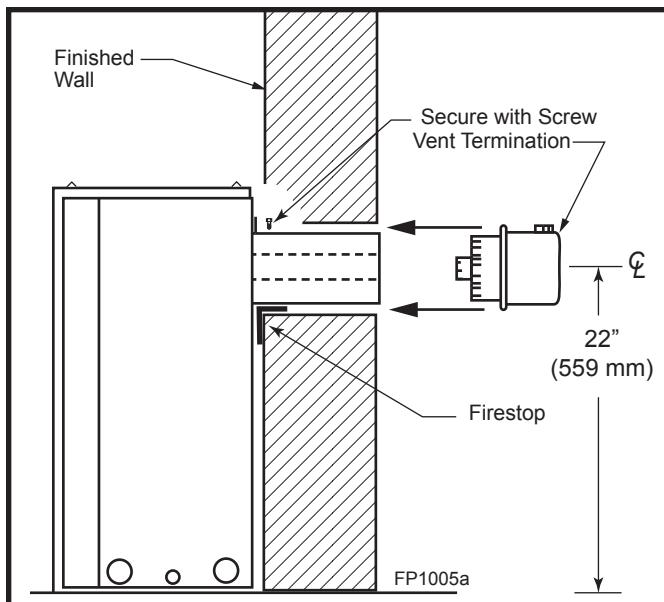

Fig. 19 Side view of final unit location.
Twist the termination collar so it locks onto fireplace collars. Run screw through tab to keep collar from turning. (Fig. 19)
- Once the collar is twisted onto the fireplace collar, secure with a screw through the tab. (Fig. 19)
8. Secure the termination to the house with the four (4) screws provided. Be sure to seal around the termination and house cladding.